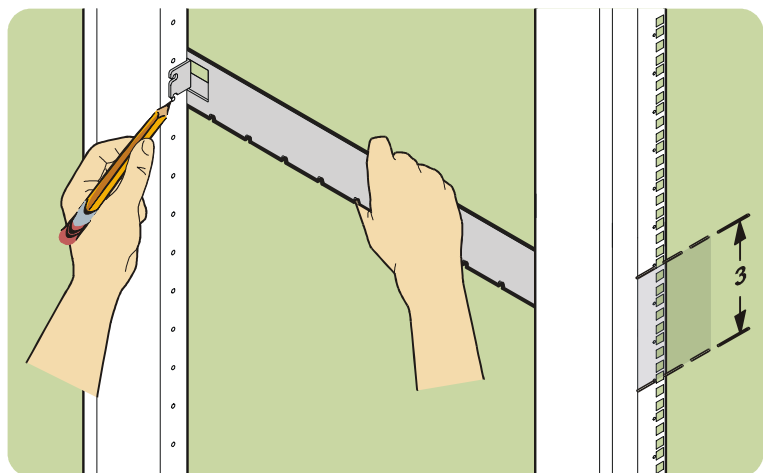

Fig. 32. Marking mounting holes in Compaq 9000
4. Holding the right rail in position, align the notches in the rail tab and mark the mounting hole on the front column (see Fig. 32).